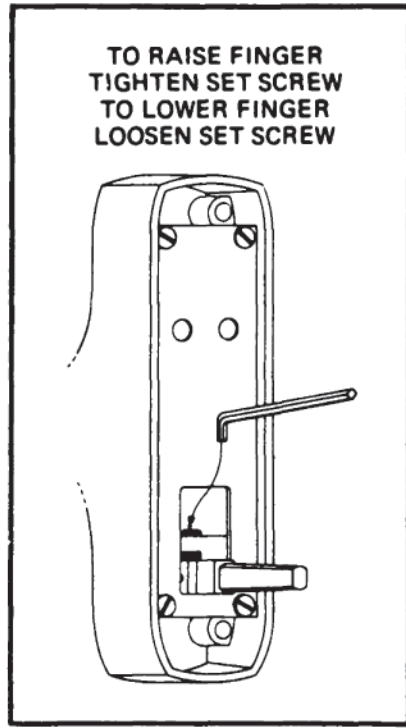

FIG. 4A
B. Adjust lift flinger to contact top of rectangular hole in coupling (Fig. 4A).
D. Remove lock stile case and adjust finger if necessary. (Fig. 4A)